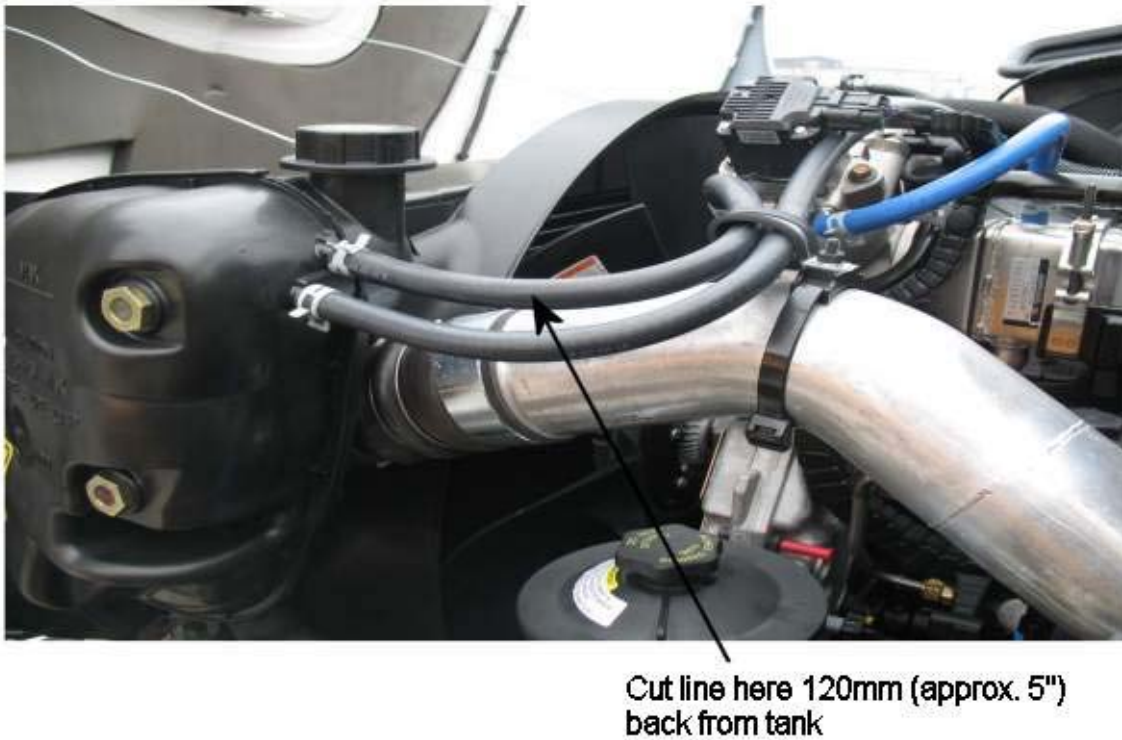

Figure 1 EGR Cooler Deaeration Hose Restrictor
2. Measure back 120 mm (approximately 5") on the top deaeration hose at the surge tank (Figure 1).